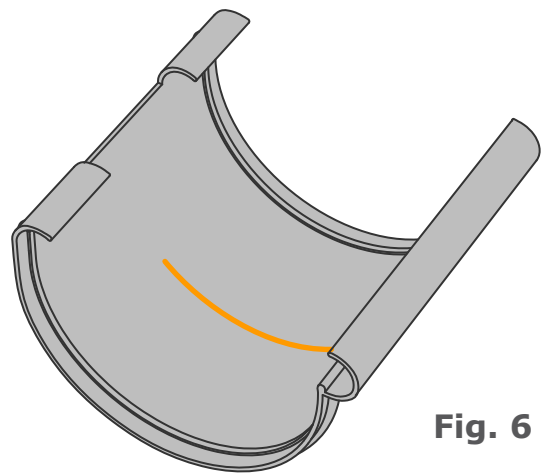

Fig. 6
4.2. On Vynadeep® fittings, gutter ends should stop 5mm short of the moulded marking. Fig. 6. Note that the outlet fitting is best installed over a continuous section of gutter length as described in steps 12 to 14.